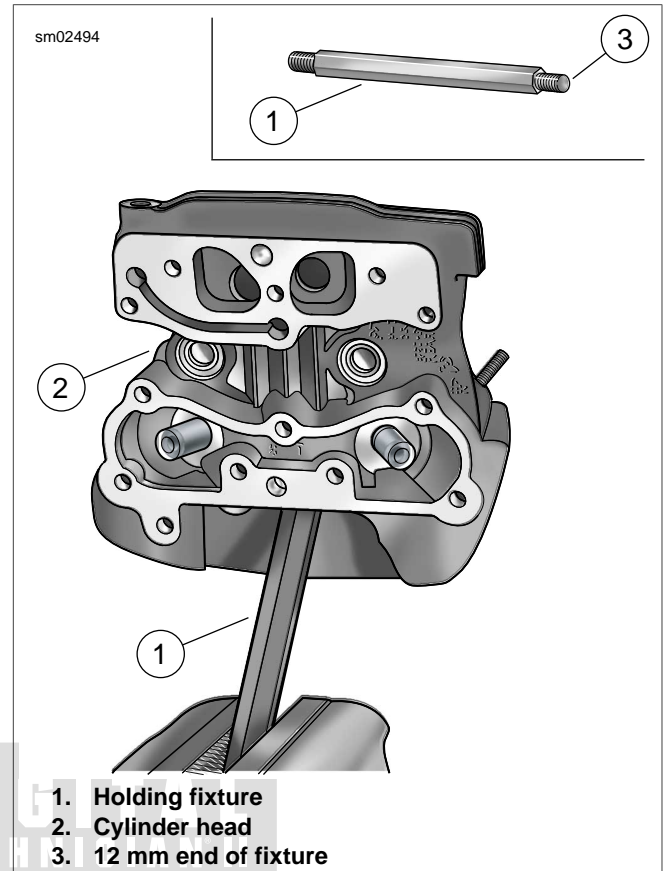

Figure 3-80. Cylinder Head Holding Fixture
2. See Figure 3-80. Secure cylinder head for service.
- a. Thread 12 mm end of CYLINDER HEAD HOLDING FIXTURE (Part No. HD-39786) (1) into cylinder head (2) spark plug hole.